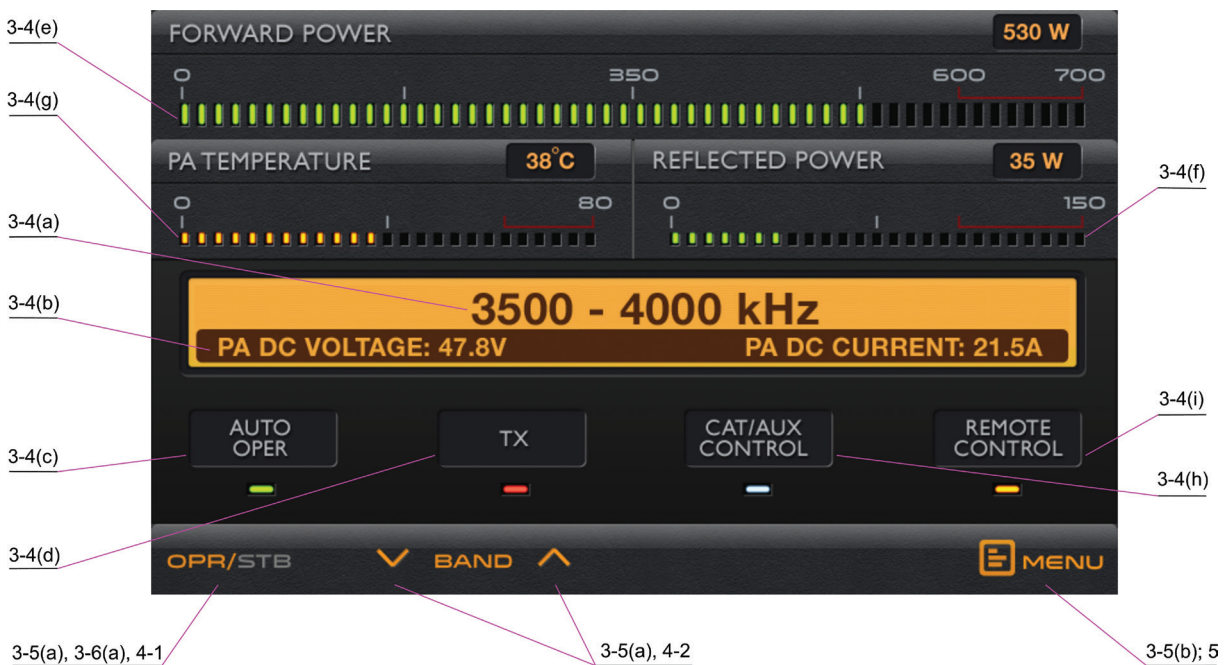

Fig. 3-2 Basic screen
- In some cases, when the transceiver is powered on after the amplifier, you may need to press and hold up for one second the button BAND of the amplifier, up or down (Fig. 3-2), to make the transceiver inform the amplifier about its frequency; in other occasions, the transceiver transmits its frequency only on changes and you may need to move slightly the main frequency dial knob or change it in another way in order to announce it to the amplifier after an initial power turn on;
In order to activate the main power supply at starting amplifier operation, press and hold on the ON/OFF button on the front panel for one or two seconds - about three seconds later the display will flash and show the **basic screen** showing the amplifier status and operation - Fig. 3-2.
- a) The OPR/STB and the BAND (up and down) buttons are used for manual (local) control of the amplifier in the basic screen (Fig. 3-2):
- b) The right-most button – MENU (Fig. 3-2) – serves for access to the list of menus.
- the EXIT button can be used at any time to leave the currently used menu or the menu list for possibly easiest and fastest “return” to the basic screen (Fig. 3-2).
After a successful check-up with non-powered amplifier, item (a), turn it on and run it to the basic screen, as described in Sections 3-1 to 3-4 (Fig. 3-2).
For this check it is necessary that the amplifier is in the Stand-by mode. If the AUTO OPER option has been activated at any previous switching on of the amplifier, it will automatically start in the AUTO OPER mode (Fig. 3-2 and S. 5-4) immediately after turning power on. In such a case, press once the OPR/STB button to return the amplifier manually to the Stand-by mode.
Now press the OPR/STB button to put manually the amplifier in Operate mode (S. 3-2 and Fig. 3-2). The OPER or the AUTO OPER indicator must flash and the indicator RX/TX must remain in condition RX. Besides this, PA DC VOLTAGE must become 48-52V while PA DC CURRENT must remain zero.
In the basic screen (Fig. 3-2) check whether the currently selected frequency band of the amplifier and the transceiver frequency match the antenna band. If needed (when the CAT/AUX interface between the amplifier and the transceiver is not connected), use BAND buttons (up and down) of the amplifier to switch to the desired frequency band manually.